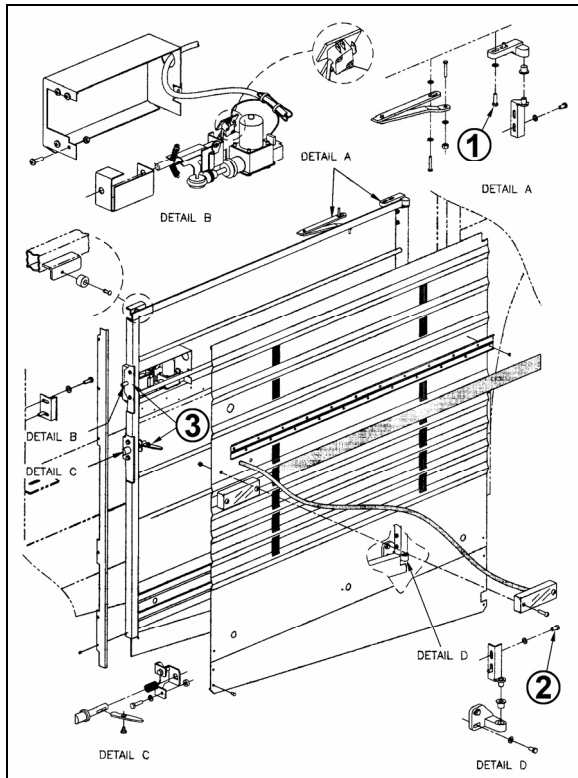

FIGURE 33: ENGINE COMPARTMENT R.H. SIDE DOOR18635
1. Loosen the bolts, (1, Fig. 33) holding the hinge to the vehicle structure to shift the door "IN or OUT" and "UP or DOWN".
2. Loosening the bolts (2, Fig. 33) allows the door to be shifted "LEFT or RIGHT" and "UP or DOWN".
To adjust the latch mechanism (3, Fig. 33) and the striker pin: